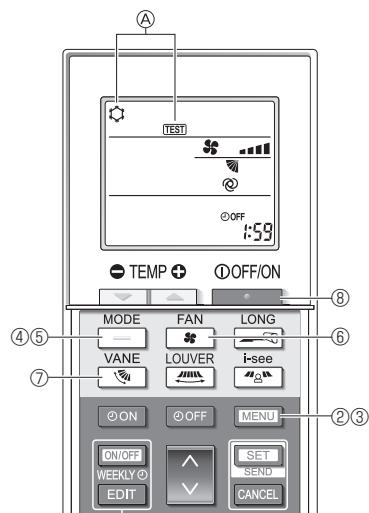

Fig. 7-8
- ① Turn on the power to the unit at least 12 hours before the test run.
- ② Press the **[MENU]** button for 5 seconds. (Fig. 7-8)
Ⓐ [TEST] and the current operation mode are displayed. (Fig. 7-8)